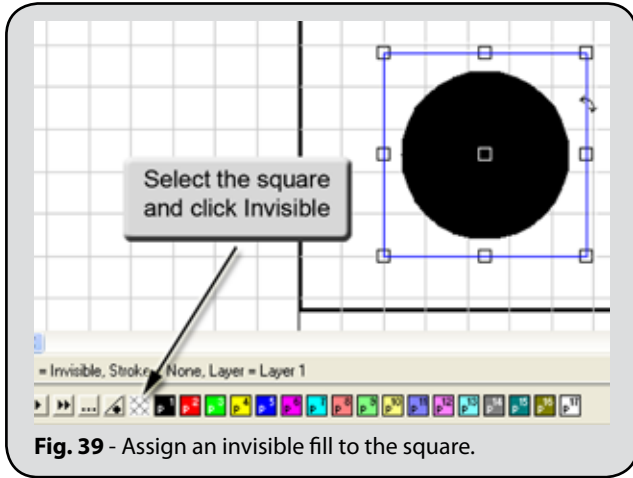

Fig. 39 - Assign an invisible fill to the square.
4. Draw a square around the circle and assign an Invisible fill (Fig. 39).